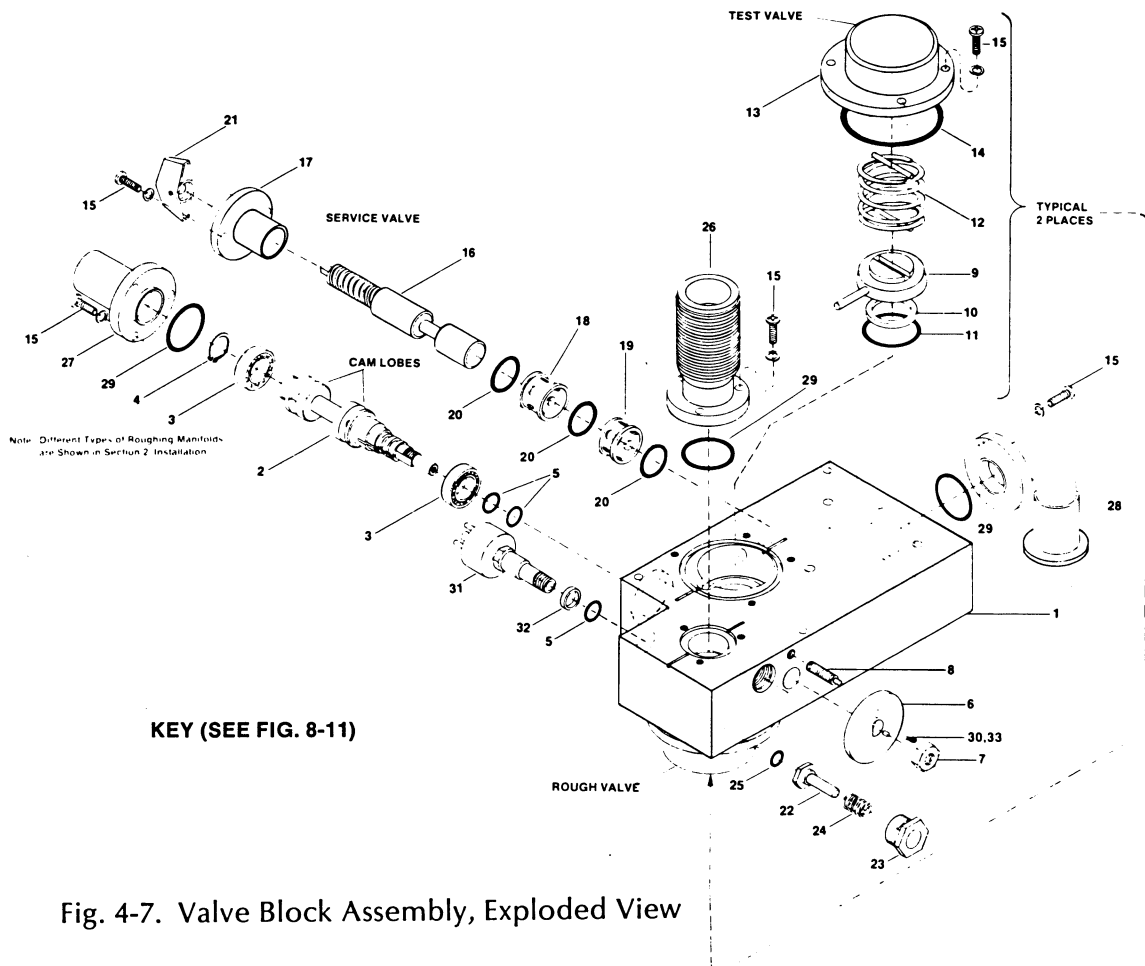
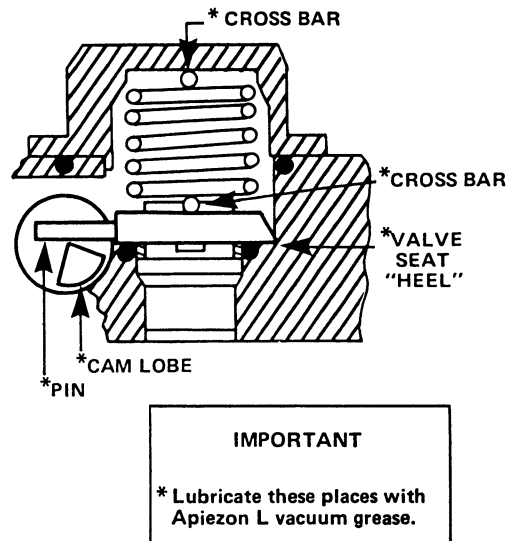

Fig. 4-7. Valve Block Assembly, Exploded View
Fig. 4-8. Valve Lubrication
- a. Remove roughing manifold (27, Fig. 4-7), spectrometer tube manifold (28), and inlet manifold (26). NOTE: All screws are the same size and length.
- b. Remove thermocouple gauge (31), O-ring (5) and washer (32) by pulling straight out.
- d. Remove test valve cap (13). (NOTE: Loosen screws evenly, as the cap is spring-loaded). Take out spring (12), valve seat (9), back-up ring (10), and O-ring (11).
- f. Remove $\frac{3}{8}$ nut (7) from cam shaft (2).
- g. Remove detent plate (6).
- i. Push cam shaft (2) back and out of valve block (1).
- j. Remove two O-rings (5) from cam shaft (2).
- k. Remove two bearings (3) from cam shaft (2).
- a. Wash all parts, except thermocouple gauge (31, Fig. 4-7) and service valve handle (21), in Freon to remove all foreign matter and residual Apiezon grease. Dry thoroughly.
- b. Lightly coat cam shaft (2), bearings (3) and detent plate (6) with mechanical pump oil for rust protection.
- a. Moisten all new O-rings with Apiezon L vacuum grease until they are shiny. The service valve O-rings (20) and cam shaft O-rings (5) must be lubricated liberally.
- c. Assemble bearings (3) onto cam shaft (2) using snap ring (4) on end bearing. Install two O-rings (5) onto cam shaft. (NOTE: Fill O-ring grooves with Apiezon grease before installing O-rings.) Lubricate cam lobes with Apiezon grease (see Fig. 4-8).
- d. Push cam shaft (2, Fig. 4-7) into valve block (1) through rough pump opening.
- e. Put $\frac{1}{2}$ drop of Apiezon grease into each detent on detent plate (6), then assemble plate onto cam shaft end using $\frac{3}{8}$ hex nut (7).
- f. Assemble rough valve assembly (Fig. 4-8) as follows: Install seat O-ring (11, Fig. 4-7) and backup ring (10). **Important:** Place one drop of Apiezon grease on "heel" of valve seat (9) and lubricate valve seat pin (which wears on cam shaft). Drop valve seat (9, Fig. 4-7) into cavity with pin riding on cam lobe. Lubricate cross bars on valve spring (12) with Apiezon grease. Place spring (12) into slot on valve seat. Place O-ring (14) into groove on valve body (1). Place valve cap (13) over spring (12) and screw down evenly.
- g. Install operating handle (21) temporarily to place cam position at 6 o'clock handle position.
- i. Assemble service valve assembly. Lubricate O-rings (20) liberally. Place an O-ring into cavity followed by the short spacer (19), then another O-ring (20) followed by a long spacer (18), then another O-ring. Coat the valve shaft (16) lightly with Apiezon grease and push it into place through the O-rings and spacers. Assemble end cap (17) and valve knob (21). Be sure to tighten screws evenly on end cap (17) with service valve all the way in. (This will line up the shaft properly.)
- j. Assemble thermocouple gauge (31) with washer (32) and O-ring (5).
- k. Assemble the spectrometer tube manifold (28), inlet manifold (26), and the roughing manifold (27).